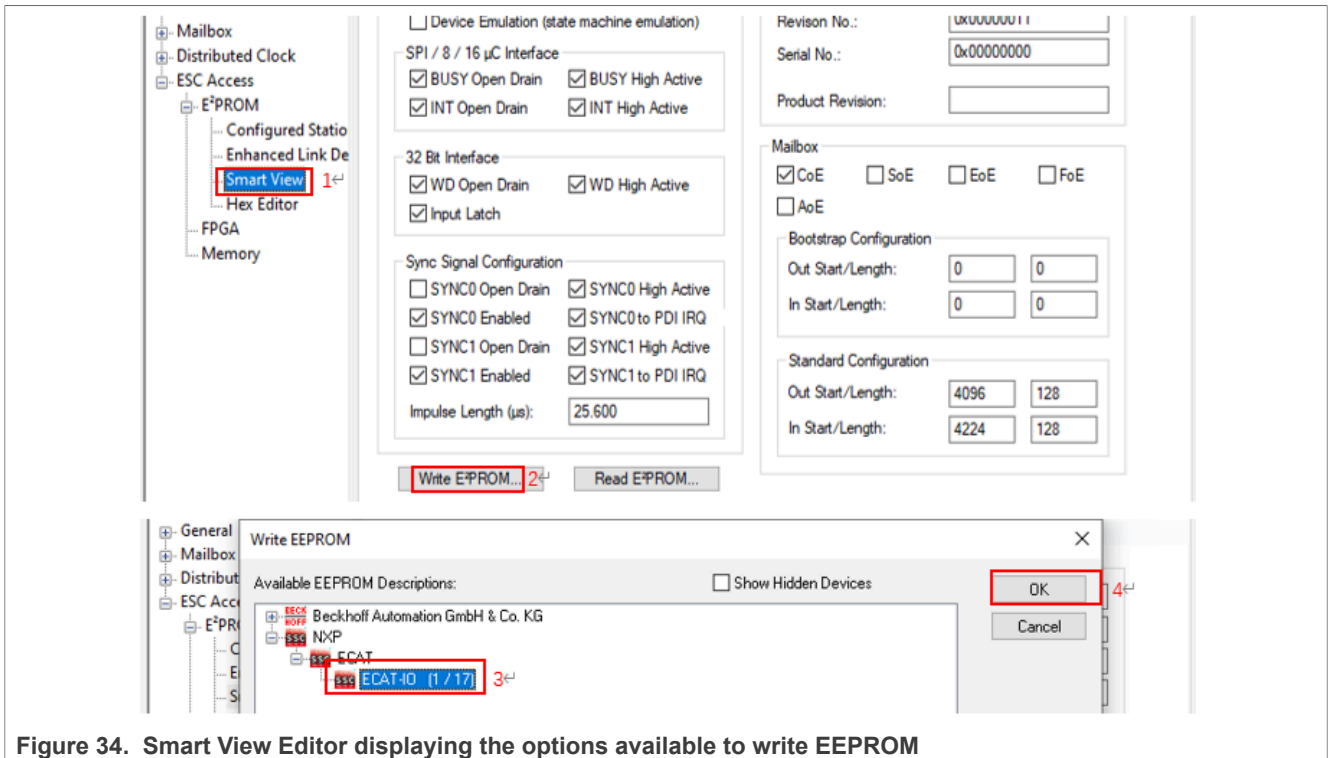

Figure 34. Smart View Editor displaying the options available to write EEPROM
2. Click **Write EEPROM** and choose XML file created by SSC tool. On clicking **OK**, the EEPROM is written as per the selected configuration as shown in Figure 34.